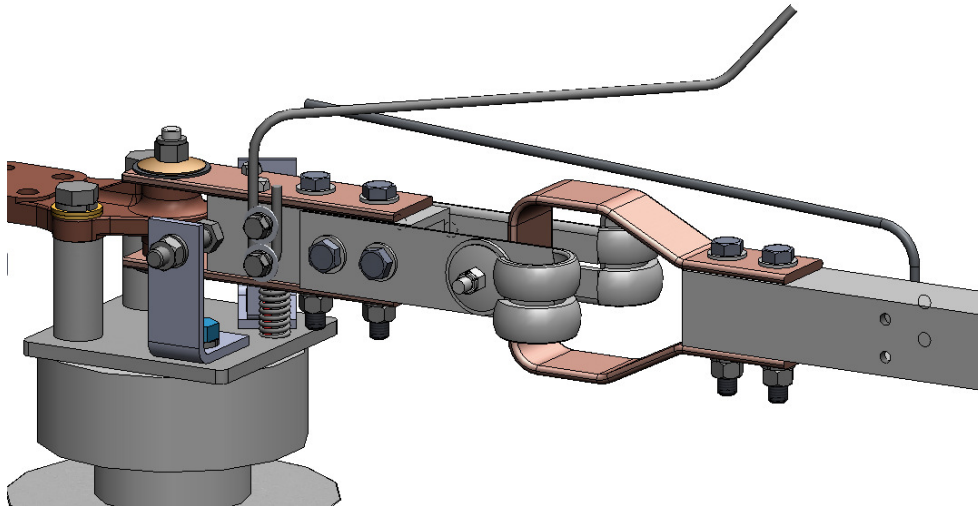

Figure 12: Arcing Horn Attachment
- 4.1.1.3. Arcing horns should be touching when the switch is fully closed as shown in **Figure 12**. If necessary the jaw (stationary) arcing horn may be bent to achieve proper contact.